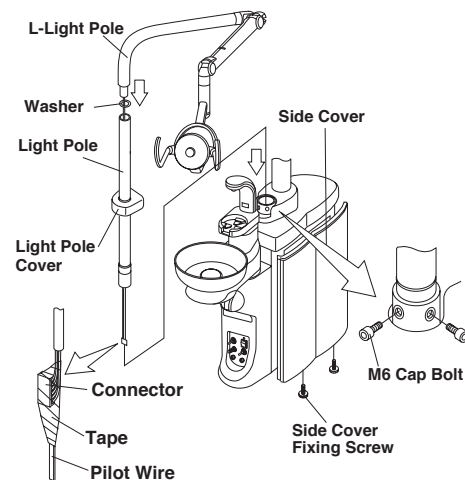

Fig.5-15 Fixing Light Pole to Cuspidor Unit
C. Remove the light pole cover from the cuspidor unit. Insert the light pole into the light pole cover. (Fig.5-15)
D. Pass the light wires through the light pole and insert the L-light pole into the light pole. Insert the light pole with dental light and L-light pole into top of the cuspidor unit. (Fig.5-15)
E. Fix the light pole in to the cuspidor unit and tightening the 2x M6 cap bolts. Fix the light pole cover to the cuspidor unit. (Fig.5-15)
G. After installing the dental light, fix the side panel back onto the cuspidor. (Fig.5-15)